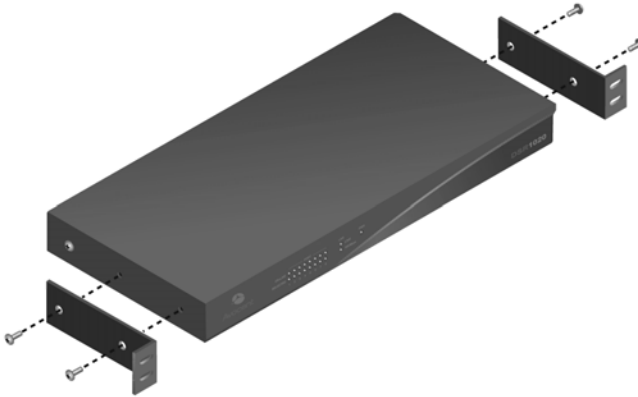

Figure 2.2: DSR Switch Mounting Diagram
2. Place the rack mounting brackets next to the switch as illustrated in Figure 2.2.